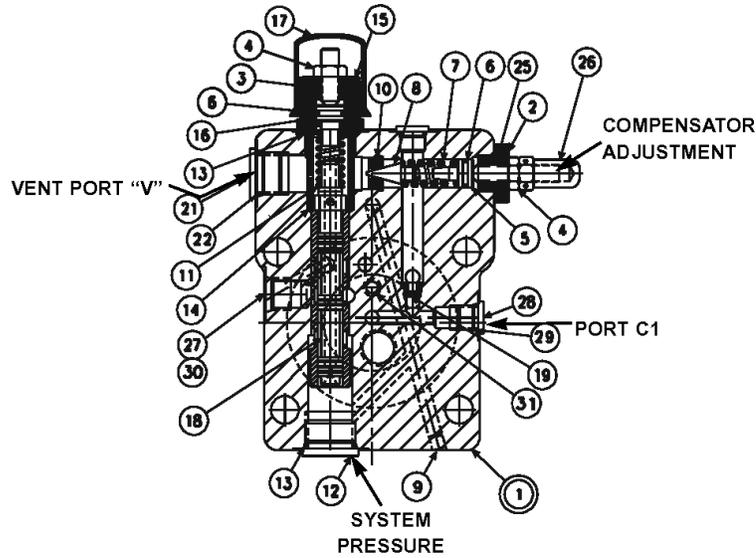
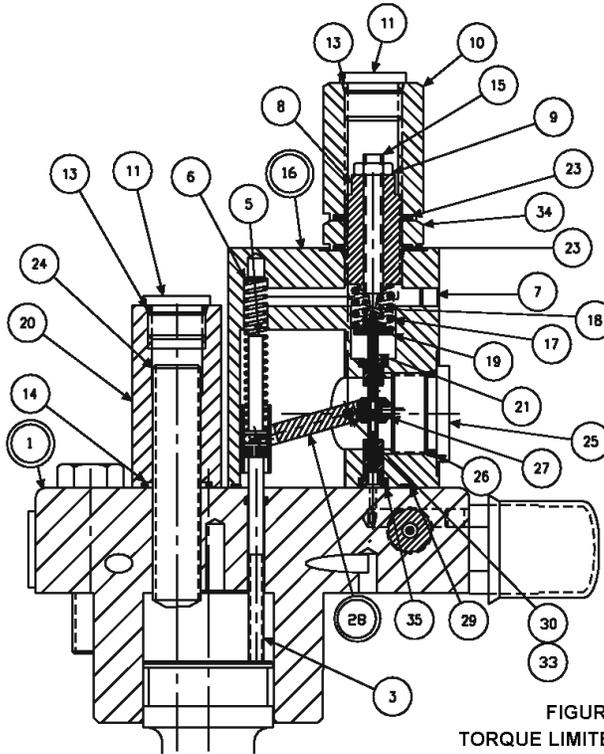

FIGURE 28
FIGURE 29
**PARTS LIST FOR FIGURE 28**
**PARTS LIST FOR FIGURE 29**
1. See figure 29. Remove 2 screws holding torque limiter body (16) to cap assembly (1).
2. Remove all parts from torque limiter body (16) except pin (30) and arm assembly (28). It is not necessary to remove these parts unless broken or worn. Examine parts for wear or damage.
3. Remove screw (3). Examine head for excessive wear, and body for smooth sealing surface with O-ring.
4. See figure 28. Remove maximum volume stop assembly (items 11, 13, 14, 20, 24).
5. Remove cap assembly (1).
6. Remove plug (15) and attached parts. Remove spring (11) and spool (18).
7. Remove adjusting plug (2) and attached parts. Remove seal piston (5). Note: a 10-24 screw may be attached to assist in pulling the piston. Remove spring (7) and cone (8).
8. Do not remove sleeve in body (1). Sleeve is pressed into cap and finished to size. If sleeve, snout or cap is worn, replace the cap-sleeve assembly (1).
9. Examine seat (10) for wear. Do not remove unless damaged.
1. See figure 28. Install Avseal plugs (9), plug (19), .032", 0,81 mm orifice (30).
2. Press seat (10) into bore squarely against shoulder in bore.
3. Install spool (18) into bore as shown. Install spring (11) over end of spool. Install O-ring (6) on seal piston (16). Lubricate and install into plug (15). Install O-rings (13) and (14) on plug (15) Install plug (15) into cap. Install screw (3), nut (4) and cover (17).
4. Install O-ring (6) on seal piston (5).
5. Lubricate O-ring and install cone (8), spring (7) and seal piston into bore in cap (1), being careful that cone enters seat (10). Install adjustment plug (2), screw (25), nut (4), and acorn nut (26).
6. Install plugs (12), (21) and (28) and torque.
7. Carefully install O-ring (31) into the cap.
9. Install maximum stop screw (24), nut (20), O-ring (14) and plug (11) with O-ring (13).
10. See figure 29. Apply thread locking compound on threads of screw (3), lubricate the shank, thread through the cap into the control piston, and torque to 5 lb.\*ft., 6,78 Nm.
12. Press dowel (30) into body (16), through the link assembly (28), to 1/4", 6,35 mm below surface. Apply hydraulic sealant to threads of screws (33) and install over dowel (30).
13. While sleeve (27) is engaged into dowel on link (28), slide spool (21) into bore of body (16), and through sleeve (27). Spool (21) must move freely and easily at all positions of the link (28).
14. Assemble remaining parts per drawing. Torque plug (11).
15. While spring retainer is engaging clevis pin (5) under dowel of link (28), slide the other opening of spring retainer over the top of the screw (3). Attach body assembly (16) to cap (1) and torque assembly screws to 75 lb.\*ft., 102 Nm.